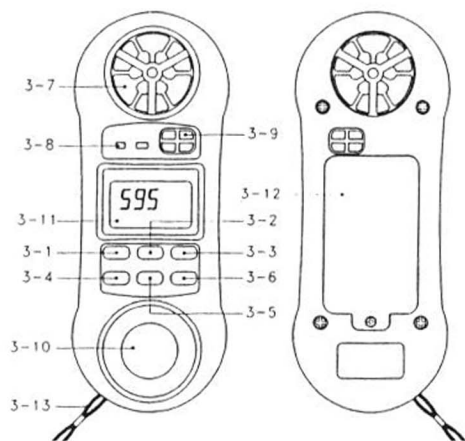

Fig. 1
- 1) Power on the instrument by pressing the " Power Button " (3-1, Fig. 1).
- 2) Select the Anemometer function by pressing " Function Button " (3-6, Fig. 1).
- 3) Press the " Unit/Zero Button " (3-4, Fig. 1) to select unit that you want and then face the " Air Flow Sensor " (3-7, Fig. 1) to the source of wind.
- 1) Power on the instrument by pressing the " Power Button " (3-1, Fig. 1)..
- 2) Plug a type K thermocouple probe in the " Thermocouple Input Socket " (3-8, Fig. 1).
- 3) Select the Temperature function by pressing " Function Button " (3-6, Fig. 1)
- 2) Select the Relative Humidity function by pressing "Function Button " (3-6, Fig. 1).
- 2) Select the Light Measurement function by pressing the " Function Button " (3-6, Fig. 1) until the light value is displayed. The light display digits are oriented 180° from the other function displays for easy exposure and output reading of the light sensor.
- 3) Press the " Lux/Ft-cd Button " (3-5, Fig. 1) to select measuring unit " Lux " or " Ft-cd ".
- * For best results zero the light sensor prior to use in a dark environment. Placing the light sensor end of the meter under a desktop or flat surface so as to block any light can accomplish this. Then press the "Unit/Zero Button " (3-4, fig. 1) to set the meter indication to zero.
Whenever press the "Hold Button (3-2, Fig. 1)" will freeze the current reading value with a "HOLD" symbol on the display.
1) The Data Record function records & displays the maximum and minimum reading values. Start the Data Record function by pressing the " Max./Min. Button " (3-3, Fig. 1) once. There will be a " REC " symbol on the display.
- (a) Press the " Max./Min. Button " (3-3, Fig. 1) once and the " Max " symbol along with the maximum value will appear on the display.
- (d) Clear the Max./Min. value recorded by pressing the " Hold Button " (3-2, Fig. 1) once. Previous recorded Max./Min. value will be given up and then revert to the REC. function keep on recording.
- 2) Open the " Battery Compartment / Cover " (3-12, Fig. 1) and remove the battery.